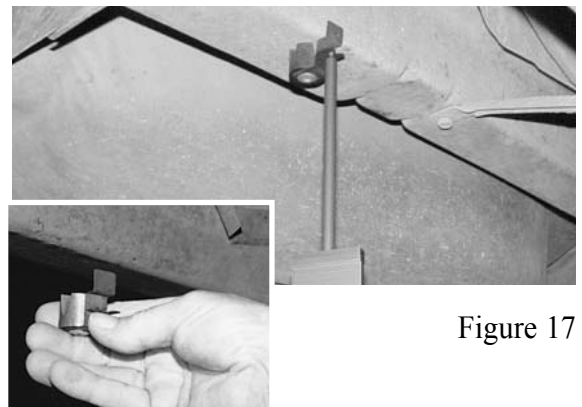

Figure 17
*Magnetic Attachments* (optional) (see Figures 17 and 18) are used on bottom of structural members when reference holes or other mounting locations are not accessible. This attachment, used primarily for comparative measurements, should be positioned so that its vertical surface is flush with vertical surface of structural member it mounts to. The Target can then be mounted in attachment's clip.